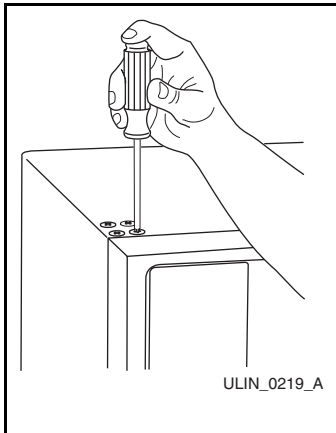

Figure 31
3. Remove four plastic plugs in hinge holes, top of cabinet, opposite side, being careful not to scratch cabinet (**Figure 31**).